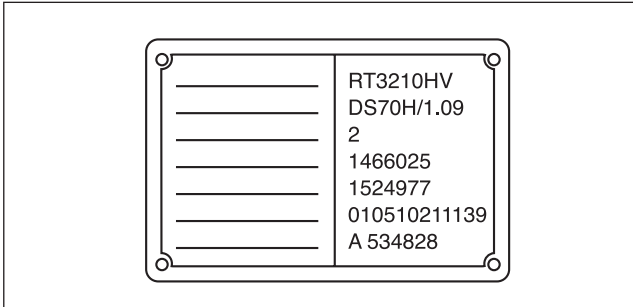

Fig. 2.1
1. Carrier identification tag. (Fig.2.1)